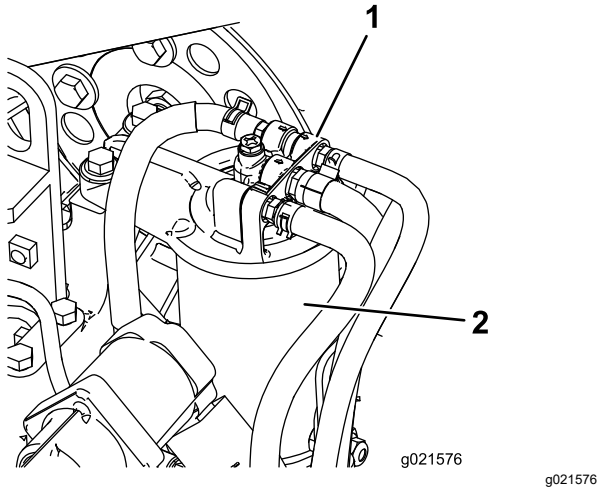

Figure 59
1. Clean the area around the fuel-filter head (Figure 59).
2. Remove the filter and clean the filter-head mounting surface (Figure 59).